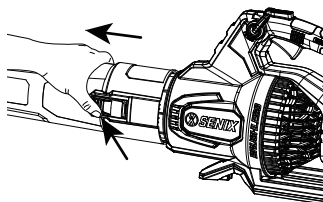

Fig. 4
2. To remove the tube, press and hold the tube-release button to disengage the latch, then pull the tube away from the blower (Fig.4).